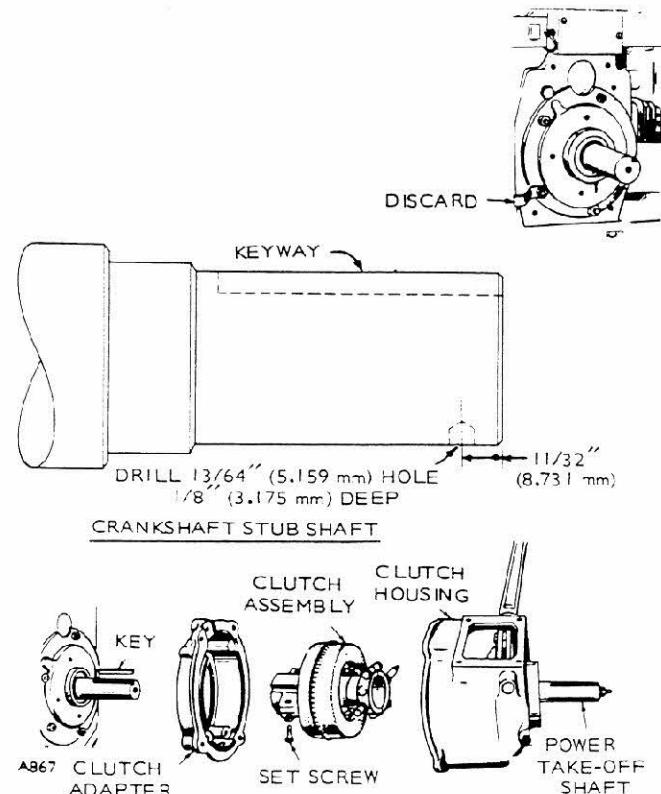

FIGURE 3. CLUTCH INSTALLATION
**Clutch Installation:** A Rockford clutch can be installed at the factory or in the field. Install the clutch according to the following instructions and Figure 3.